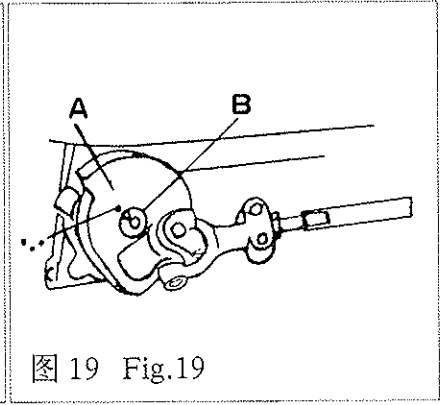

图 19 Fig.19
(1)钩线叉的基本位置 钩线叉的基本位置由钩线叉曲柄“A”与主轴“B”的位置决定。安装时应将曲柄上的圆点“·”标记对准主轴上的“V”形槽中心时,将钩叉曲柄固定(图19)。
Basic position of thread hook is decided by positions of crank "A" of thread hook and main shaft "B". When the mark "." on the crank coincides with the center of "V"groove on the main shaft, fix the crank of thread hook in place ( Fig.19 )
③调整钩线叉曲柄上的圆点“·”标记与主轴“V”形槽的相对位置(图 19)对钩线叉的左右位置也有影响。所以调整钩线叉的左右位置,必须根据具体情况,在上述三步骤中仔细选择和反复进行调整,才能达到最佳状态。
③ Adjustment of location of the mark "·" on the crank of thread hook in relation to "V" groove on the main shaft (Fig.19) impairs the positioning of the location of the thread hook. Thus microadjustment of the position for thread hook shall be made accordingly. An ideal condition of operation can be acquired only when careful selection and
①运动关系调整 通过调整钩线叉曲柄上圆点“·”标记相当于主轴“V”形槽位置(图19)。
① Adjustment of timing relation by regulating the position of the mark “·” on the crank of thread hook and “V” groove on the main shaft (Fig.19)